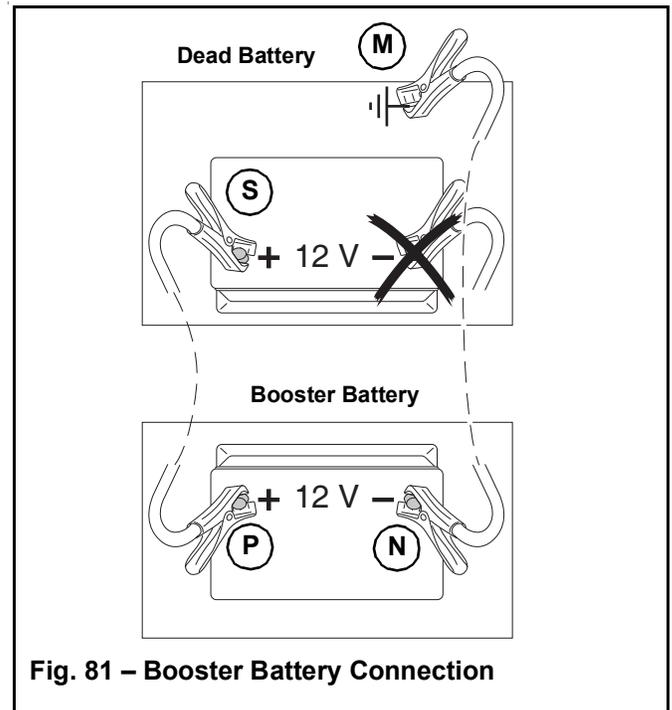

Fig. 81 – Booster Battery Connection
4. Connect the positive jumper cable to the positive (+) terminal (S, Fig. 81) on the discharged battery.